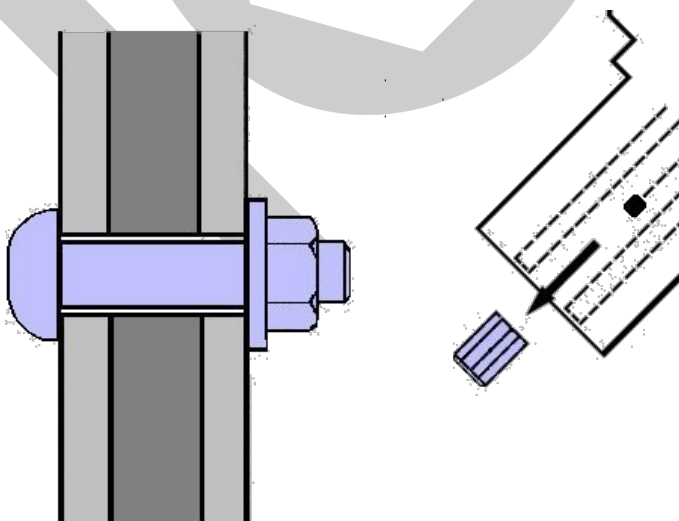

Fig 4.
4. Stop the wrench and pull the outer socket off the nut. The spline is retained in the inner socket. The wrench has a second trigger to eject the spline safely (Fig 4). Ensure that the wrench motor has come to rest prior to engaging the next bolt.